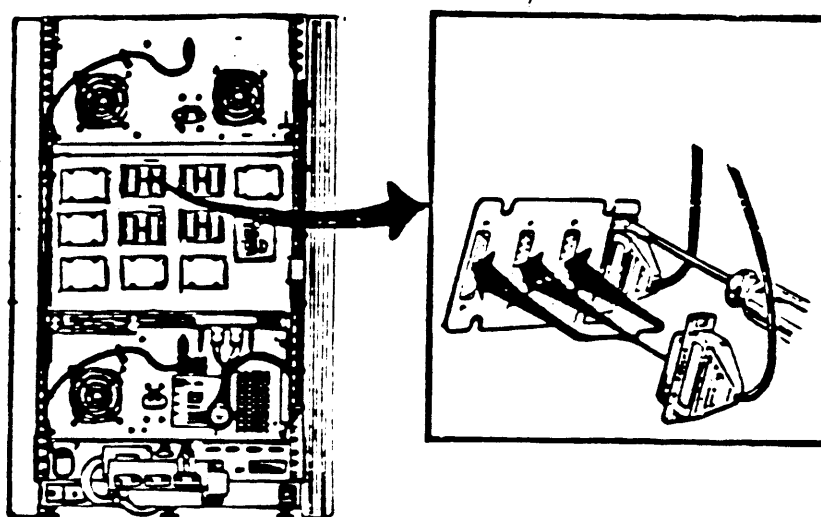

Figure 2-26. Install any additional devices.
Step 16: Install and connect any additional devices as shown in Figure 2-26.